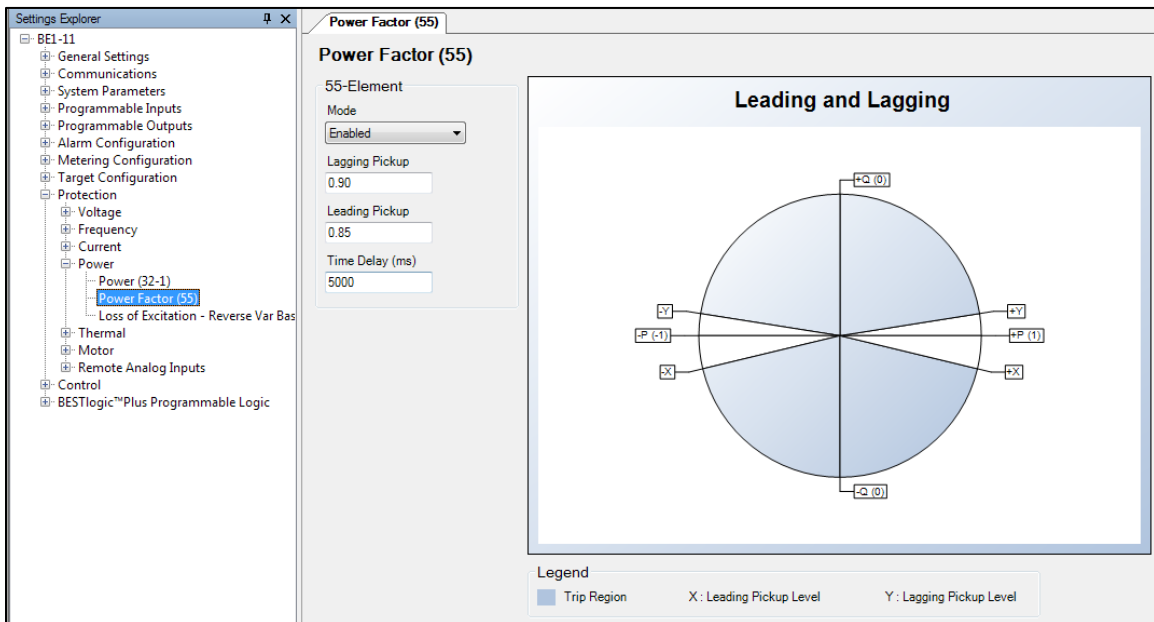

Figure 84-62. Power Factor (55) Screen
Configure the Power Factor (55) element as shown in Figure 84-62. A slight delay allows automatic excitation equipment or a remedial action scheme an opportunity to correct an out-of-range operation condition.